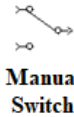

Figure 1.22 – Manual Switch block icon
5.3. The Manual Switch block can be found in the **Simulink/Signal Routing** library. Manual Switch block icon is shown in Figure 1.22.